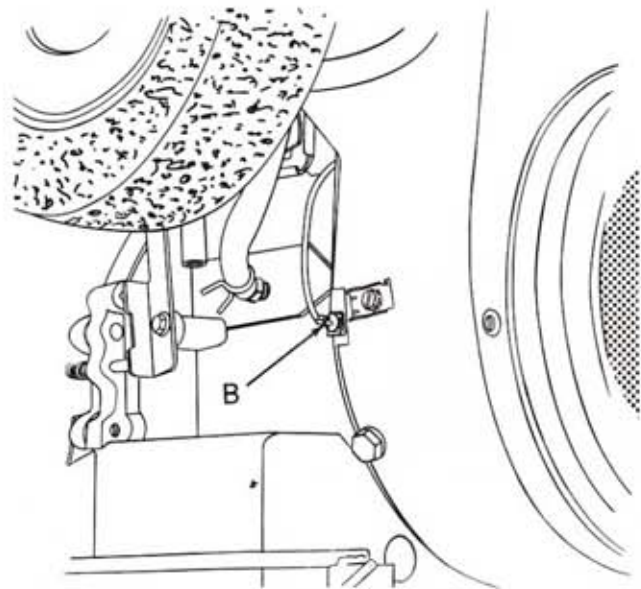

FIG. 15
8. Attach eyelet of shorting wire from shredder attachment to terminal (B) on Craftsman engine. Front of blower housing as shown above. See (Fig. 15).